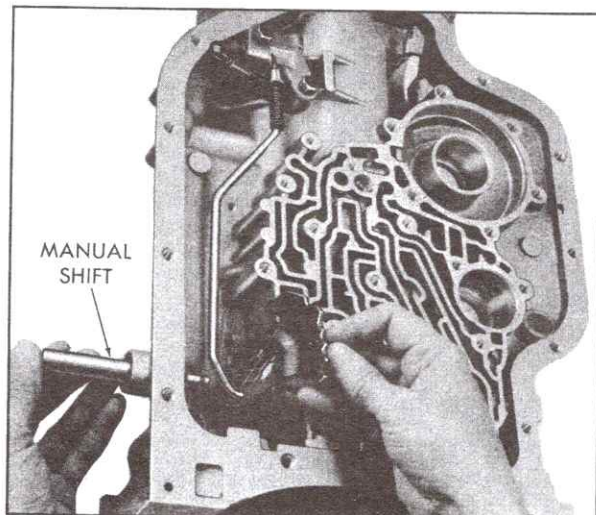

Fig. 7-98 Installing Manual Shaft
4. Install manual shaft assembly into case and through detent lever, Fig. 7-98.